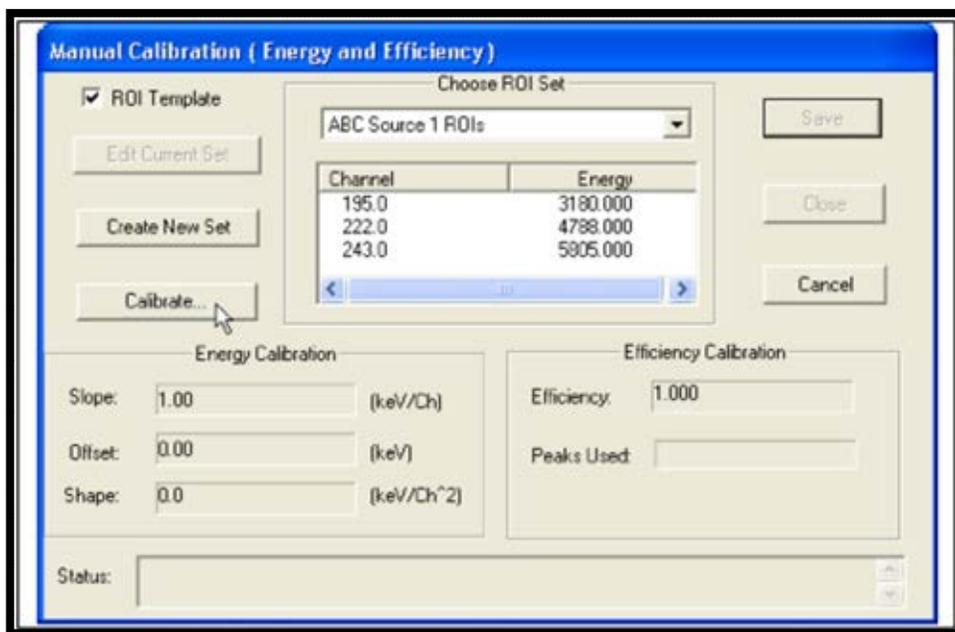

Figure 44. Click the Calibrate Button
- 2) After returning to AlphaVision, the ROI values are auto entered into the Manual Energy and Efficiency Calibration dialog. Click **Calibrate** (Figure 44).